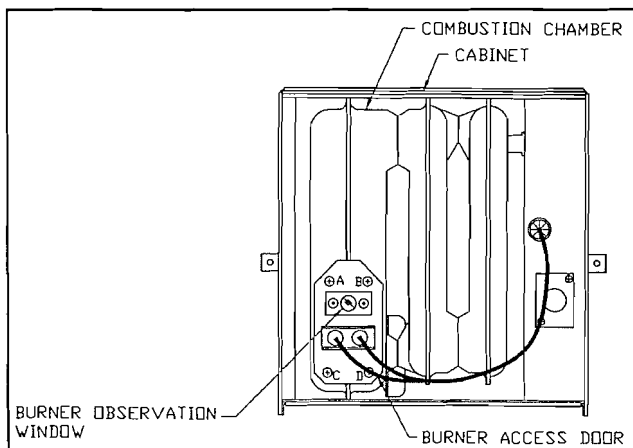

Figure 1
3. Periodically observe the main burner flame to assure it is burning with a hard blue flame with well defined burner ports (See Figure 2). If flame appears yellow or burner has a lazy flame, shut furnace down. It is possible that burner needs cleaning or replaced. To inspect the main burner, remove the four (4) screws (A, B, C and D) securing the burner access door to the combustion chamber (See Figure 1). If excessive rust and corrosion are present on burner surface, the burner must be thoroughly cleaned or replaced. The burner may be cleaned using a steel wire brush and blown clean using high compression air. Contact a qualified service person for assistance.
NOTE: To observe flame, cabinet front must be removed. Operation of burner can then be observed through the viewing window on front of chamber (See Figure 1).